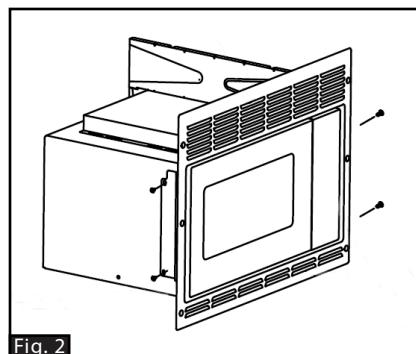

Fig. 2
3. Attach the trim kit to the microwave oven with 4 - M4x10mm screws (Fig. 2).